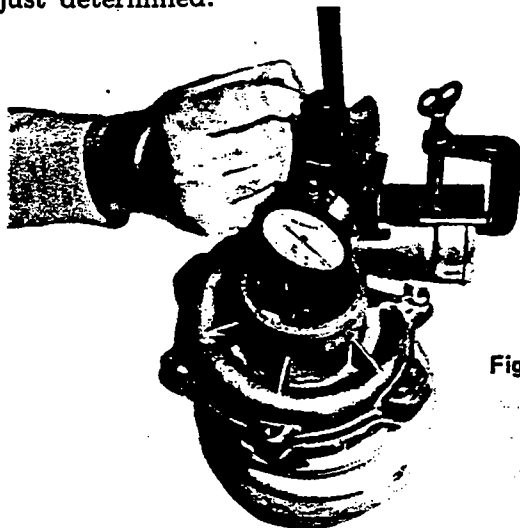

Figure 17
1. Temporarily place the shaft sleeve (12) in the bore of the oil seal (14). Position the impeller loosely over the oil seal, resting on the shaft sleeve. Temporarily install the compressor housing and gasket, securing them with a minimum of three capscrews. Tighten the capscrews to 80 inch-pounds torque.
2. Mount a dial indicator so that the indicator point engages the hub of the impeller as shown in Fig. 17. Use a pair of long-nosed pliers or similar tool. Grasp the impeller gently and raise as far as possible, then check the dial indicator to determine the total impeller movement.
3. Subtract the total end play determined in step C, (3) above from the total impeller movement determined in step (2) above. Select shims which will total .015 to .020 inch less than the value just determined.